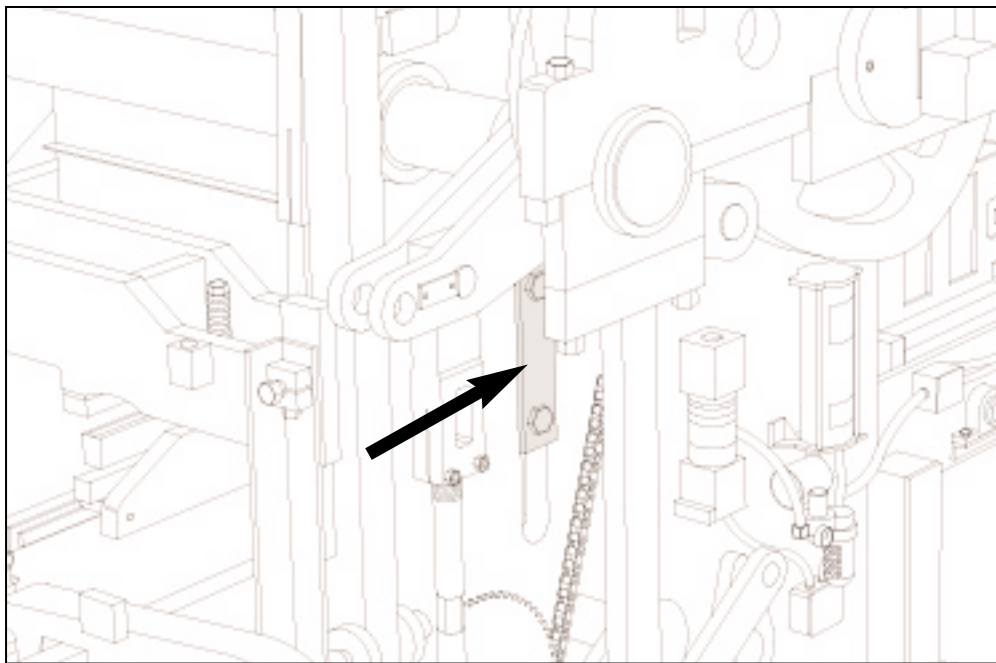

Figure 4.54 TIGHTEN "T" CLAMPS ON BOTH SIDES.
- f. Tighten "T" clamps on each side of machine that secure machine side plate to mold throat plate. See figure 4.54 below.